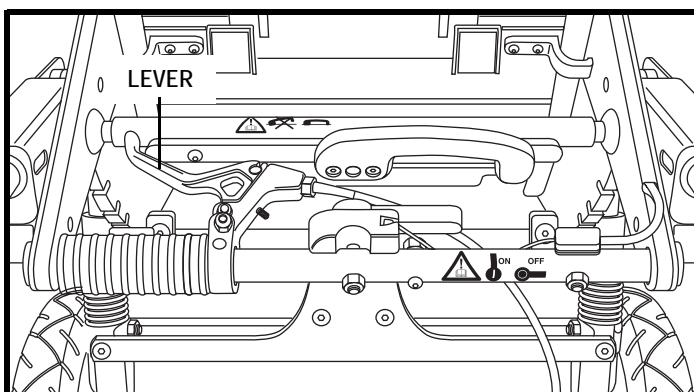

Figure 45. Tilt Adjustment (Kids FAST)
2. While holding the handlebar, use the lever on the handlebar to release the tilt lock. **See figures 45 and 46.**